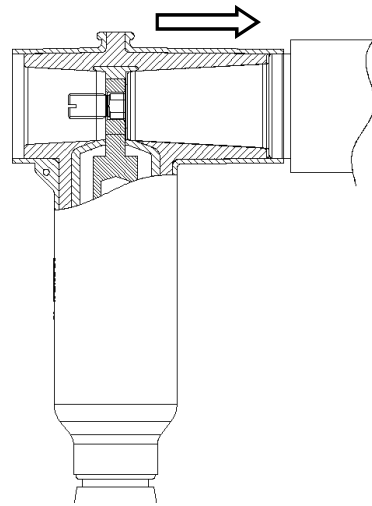

Figure 18
1. Continue after step 5 Figure 18 on page 23 during installation of the Front Tplug for a New Installation, **OR** remove the end cap, insulating plug, nut & washer of the Existing Installed Tplug before installing Sub Tplug.
1. Continue after step 5 Figure 18 on page 23 during installation of the Front Tplug for a New Installation, **OR** remove the end cap, insulating plug, nut & washer of the Existing Installed Tplug before installing the Surge Arrester.